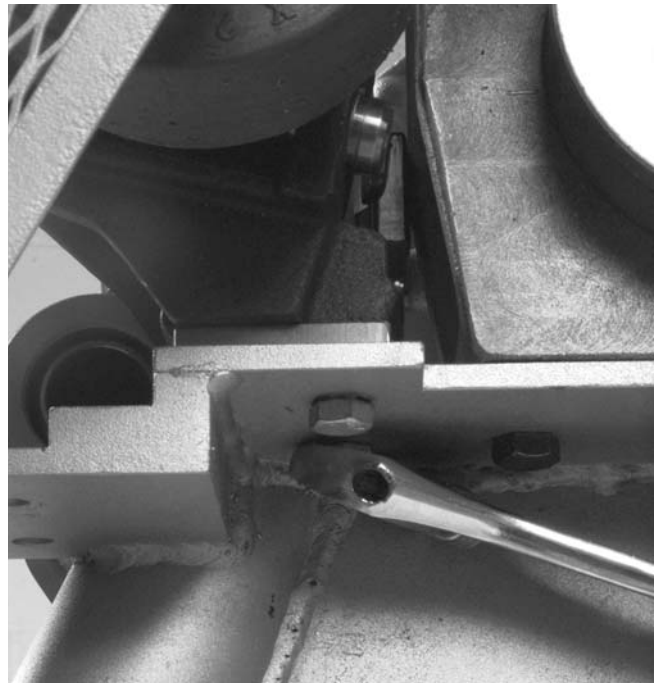

Figure 11 – Removing Bolts Holding Stabilizer
1. Remove the two 3/8" bolt that hold the stabilizer in place (9/16" wrench or socket) (Figure 11).